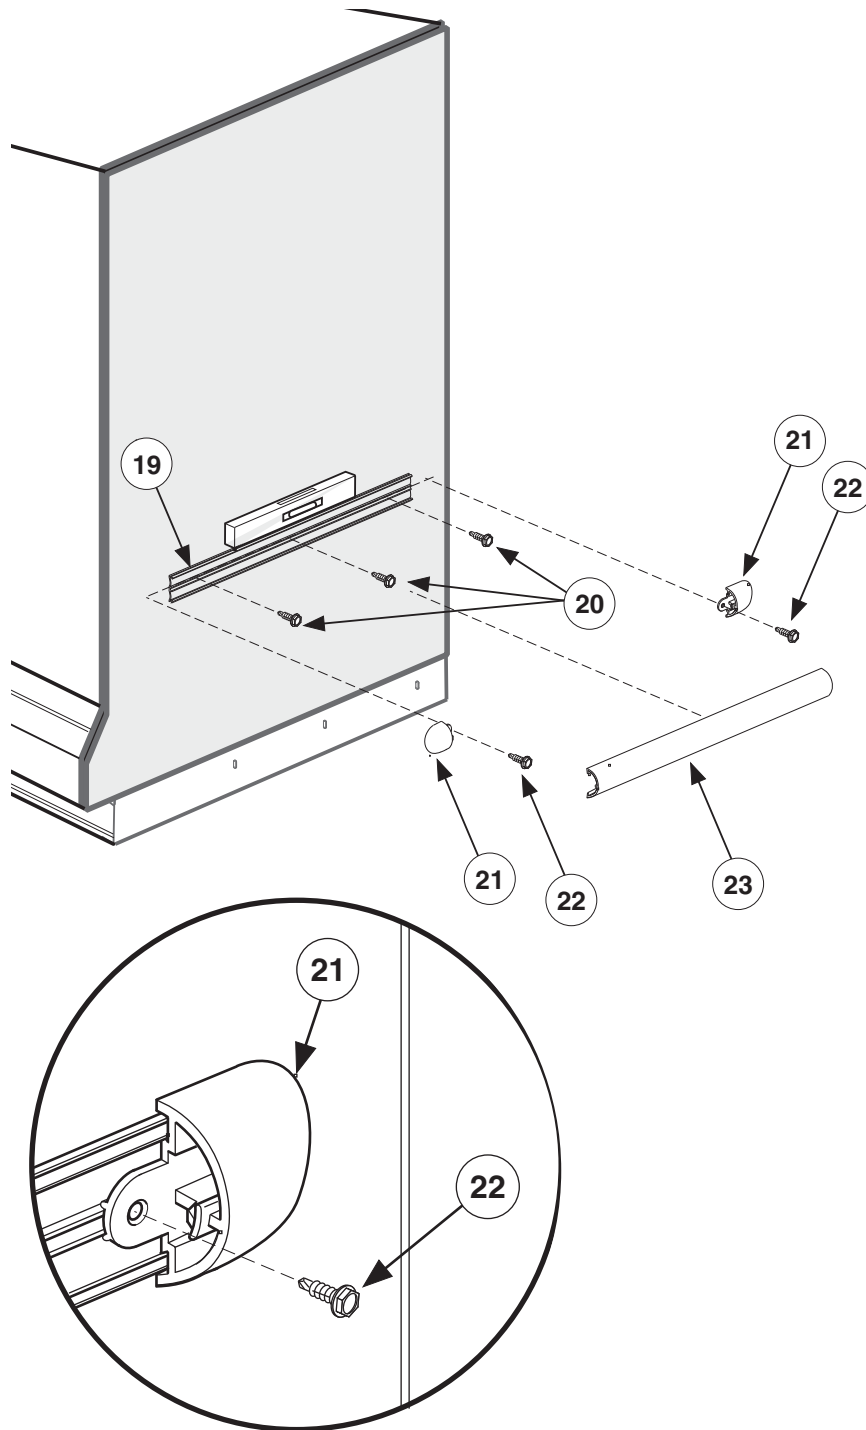
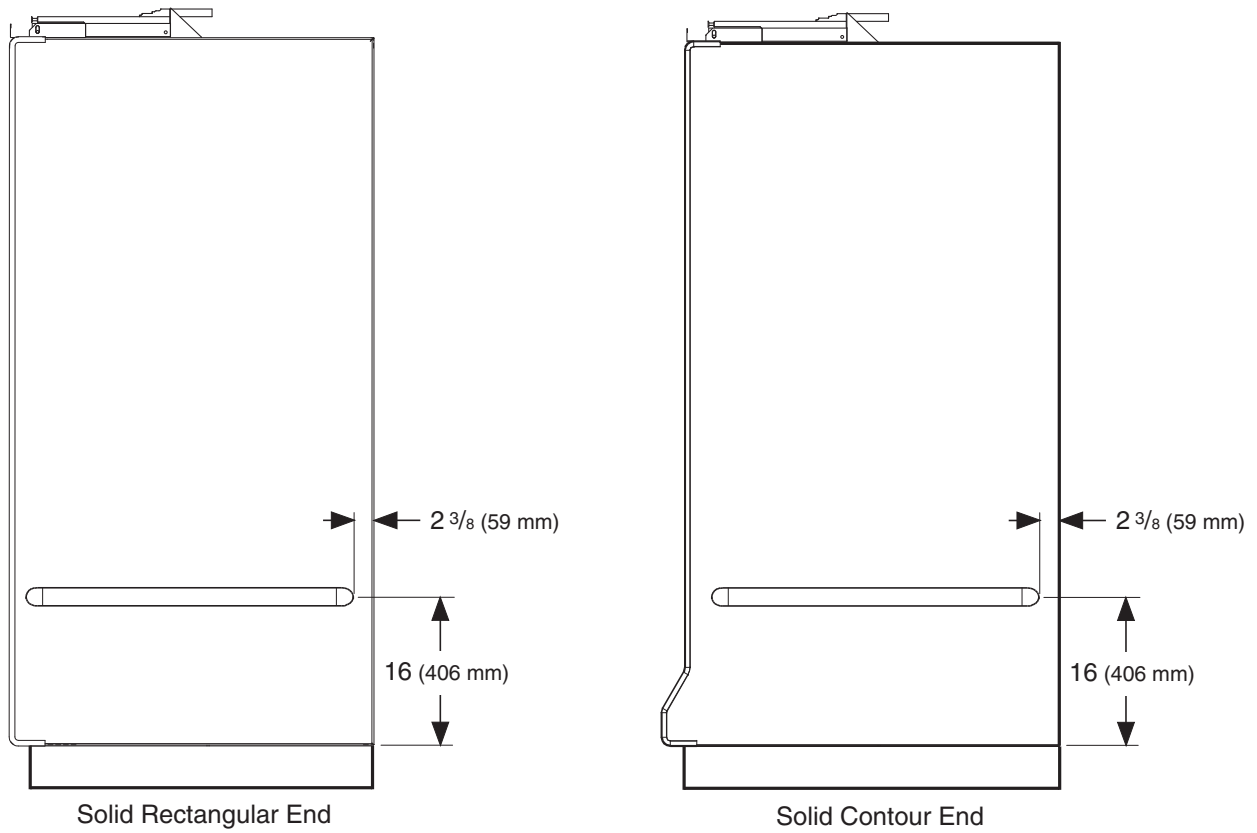

Figure 13. Install Optional End Bumper
Figure 14. Location Optional End Bumper
- 1** Position **Bumper Retainer—19** against End Assembly as shown in **Figure 13** and check for level. Fasten using **Screw—21**. Refer to **Figure 14** to determine placement.